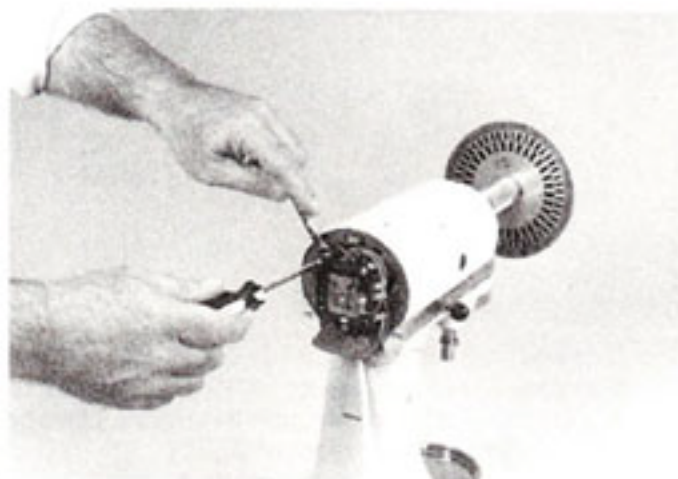

Fig. 78
- D. When proper speed has been set, lock the two lock nuts using  $11/32"$  wrench (Fig. 78) and check the speed again. If a small correction must be made, make it without loosening the lock nut. Test speeds as before and when correct, it will not be necessary to disturb the lock nuts.